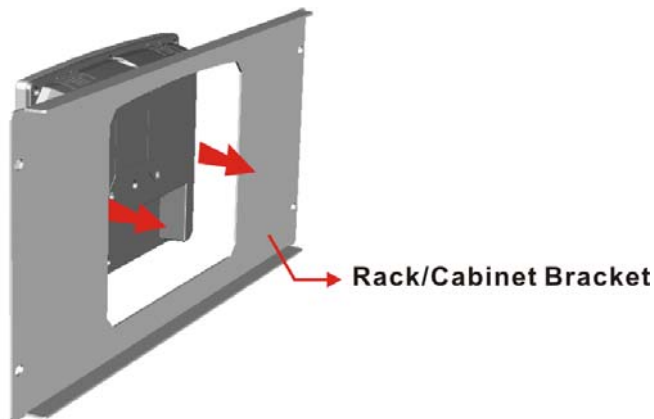

Figure 3-25: The Rack/Cabinet Bracket
Step 1: Slide the rear chassis of the AFL-HM55 Series flat panel PC through the rack/cabinet bracket until the aluminum frame is flush against the front of the bracket (**Figure 3-25**).